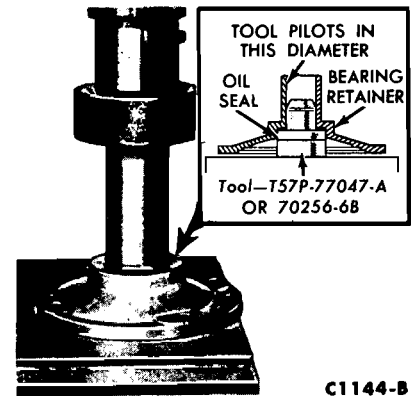

FIG. 20—Installing Input Shaft Seal
3. Install the seal as shown in Fig. 20.